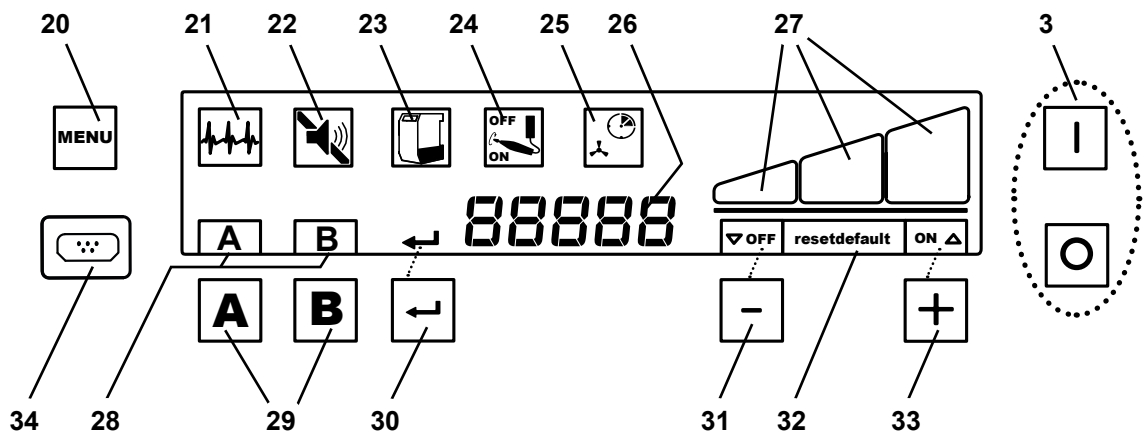

Fig. 2
- ⇒ Switch the device off at the on / off switch (3, Fig. 2).
The suction is controlled by the keys on the control panel (Fig. 2).